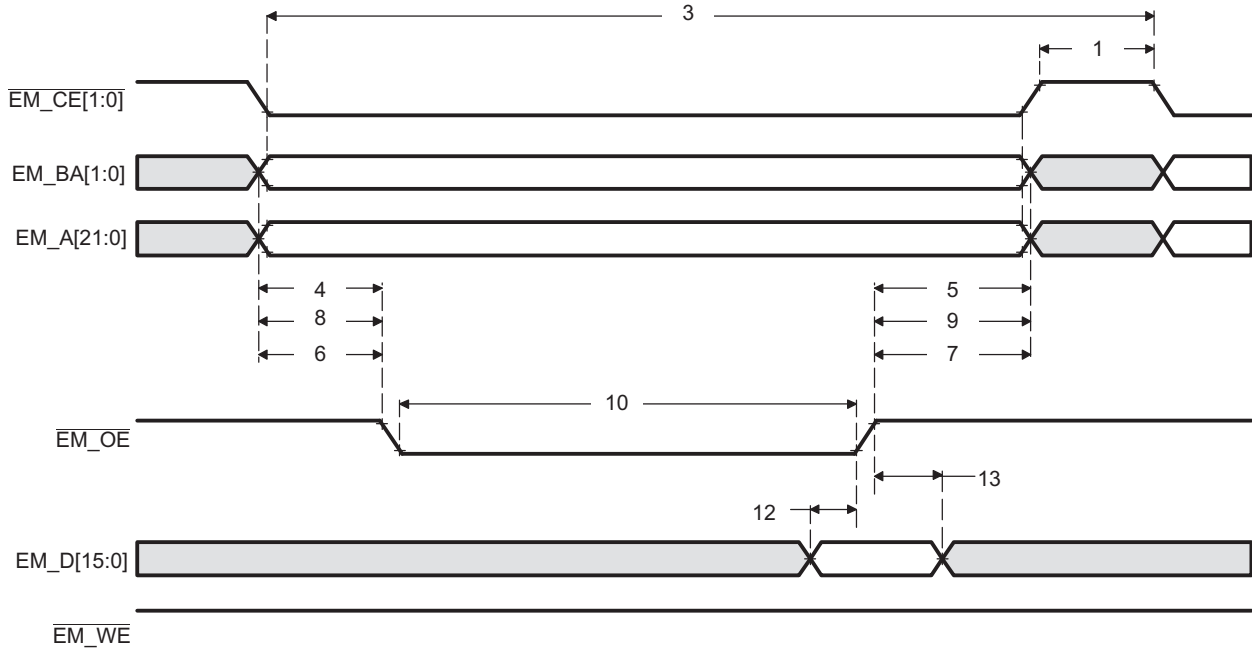
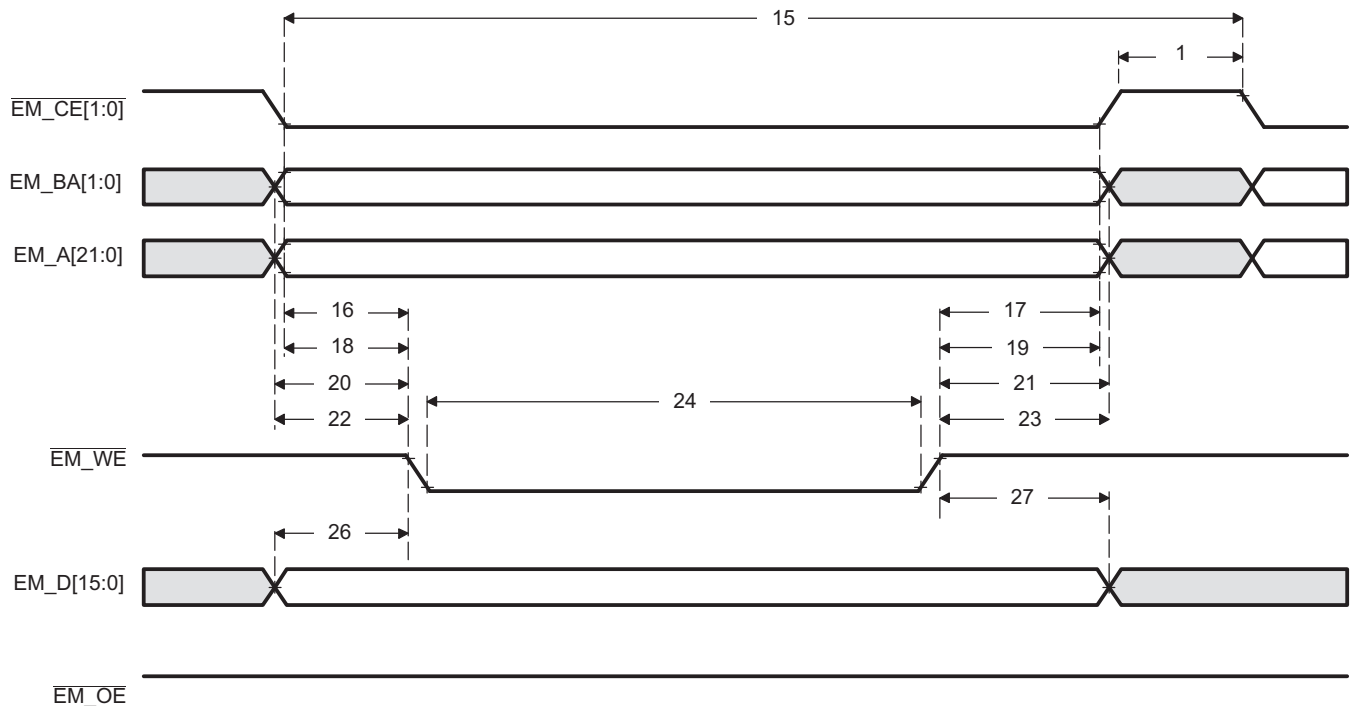

Figure 7-13. Asynchronous Memory Read Timing for EMIF
Figure 7-14. Asynchronous Memory Write Timing for EMIF
Table 7-21. Timing Requirements for Asynchronous Memory Cycles for AEMIF Module⁽¹⁾ (see Figure 7-13 and Figure 7-14)
Table 7-22. Switching Characteristics Over Recommended Operating Conditions for Asynchronous Memory Cycles for AEMIF Module⁽¹⁾ ⁽²⁾ ⁽³⁾ (see Figure 7-13 and Figure 7-14)
- (1) TA = Turn around, RS = Read setup, RST = Read strobe, RH = Read hold, WS = Write setup, WST = Write strobe, WH = Write hold, MEWC = Maximum external wait cycles. These parameters are programmed via the Asynchronous Bank and Asynchronous Wait Cycle Configuration Registers. These support the following range of values: TA[4-1], RS[16-1], RST[64-1], RH[8-1], WS[16-1], WST[64-1], WH[8-1], and MEW[1-256]. See the TMS320DM36x Digital Media System-on-Chip \(DMSoC\) Asynchronous External Memory Interface \(EMIF\) User's Guide (SPRUF11) for more information.
(3) EWC = external wait cycles determined by EM_WAIT input signal. EWC supports the following range of values EWC[256-1]. Note that the maximum wait time before timeout is specified by bit field MEWC in the Asynchronous Wait Cycle Configuration Register. See the TMS320DM36x Digital Media System-on-Chip \(DMSoC\) Asynchronous External Memory Interface \(EMIF\) User's Guide (SPRUF11) for more information.
Table 7-22. Switching Characteristics Over Recommended Operating Conditions for Asynchronous Memory Cycles for AEMIF Module^{(1) (2) (3)} (see Figure 7-13 and Figure 7-14) (continued)